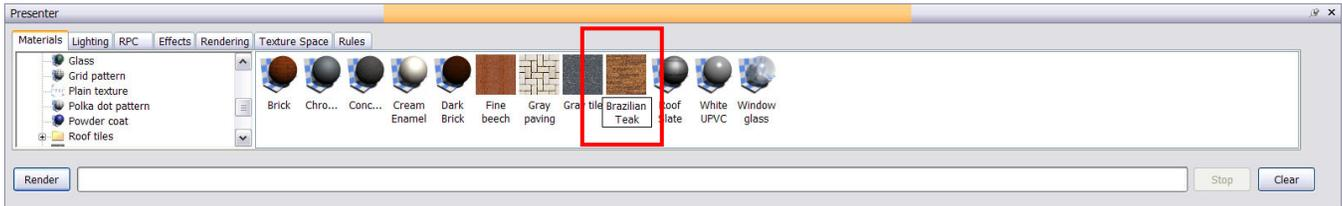

Figure 6
5. The material display should now represent the wood pattern that was just imported. It is highly recommended that you rename the material and move it into the "My Materials" folder (Figure 6).